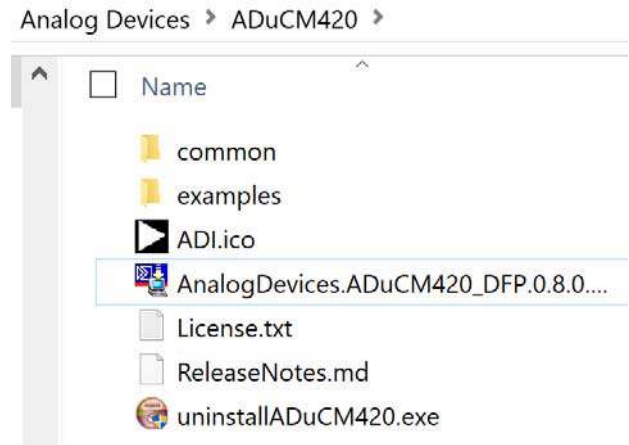

Figure 5. ADuCM420 **examples** Folder with Projects
3. After installation, the `\AnalogDevices\ADuCM420` folder opens. This location contains the **examples** folder that stores the example codes for the ADuCM420 (see Figure 5).